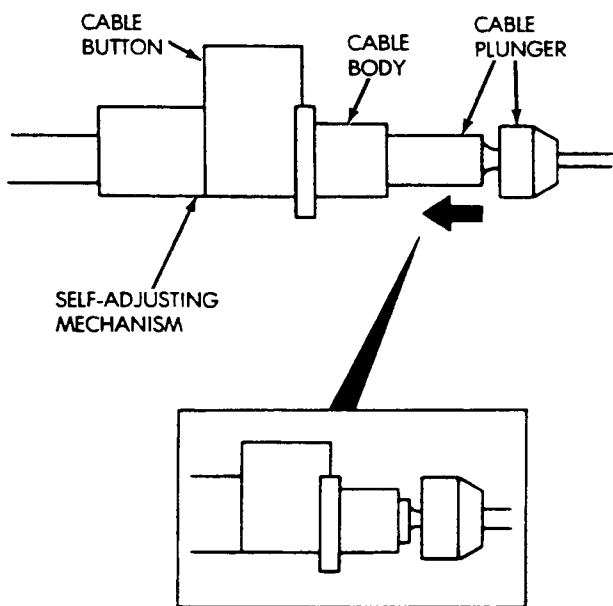

Fig. 29 Retract Throttle Cable Plunger
(2) Fully retract cable plunger. Press cable button all the way down. Then push cable plunger inward (Fig. 29).